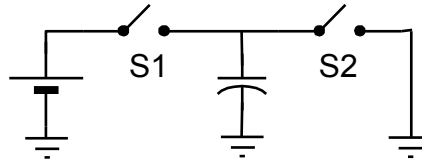

Figure 3.2. Equivalent circuit for a Van de Graff generator and Leyden jar system.
- b) Relate the electrical behaviour of the three steps above to the state of the circuit equivalent in Figure 3.2 by identifying the sequence of switch positions and entering these into Table 1 a). For example, touching the Leyden jar to the globe is analogous to closing S1 and opening S2. The ground symbols indicate an implied electrical connection among the three branches.